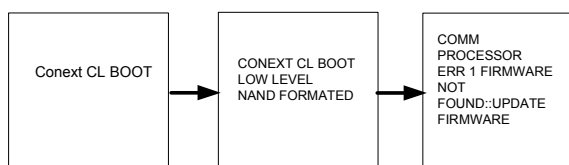

Figure 1-12 Low level format screen
- f) When Grid LED & PV LED start glowing steady, immediately press the "ESC" button 3 times and press the "HOME" button 1 time within 10 sec and confirm below mentioned LCD messages are appeared in sequence as shown in Figure 1-12 on page 1-15.